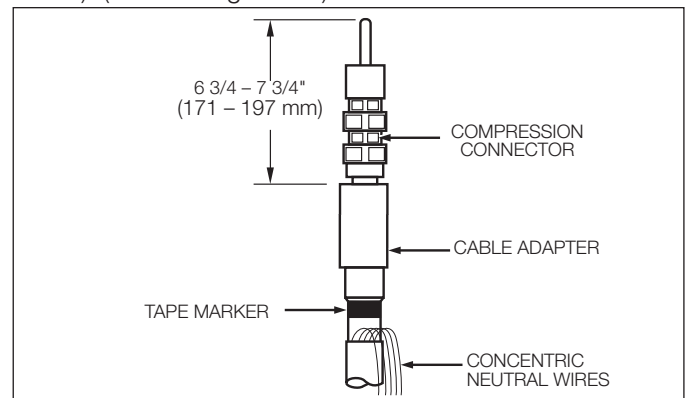

Figure 11.
- Length should be between 6 3/4" and 7 3/4" (171-197 mm). (Refer to Figure 11.)